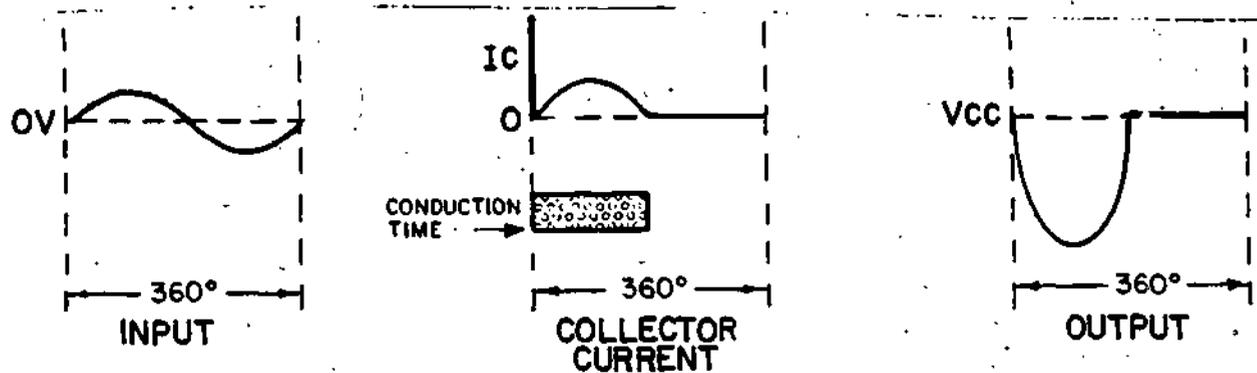

Figure 29
31. Figure 29 shows the operation of Class B amplifiers.
In Class B amplifiers, the transistor conducts for half the duration of the input cycle, or  $180^\circ$ . In the center diagram of Figure 29, the bar chart shows that the transistor conducts for half of the cycle. Notice that Class B amplifiers have near zero bias which causes the transistor to cut off.
In Figure 29, the output waveform is clipped for  $180^\circ$  due to no transistor conduction. Therefore, the clipped output signals of Class B amplifiers are distorted when compared to the output signals of Class A amplifiers. However, Class B amplifiers are more efficient due to the reduced conduction time. We will discuss more about efficiency in a later frame.